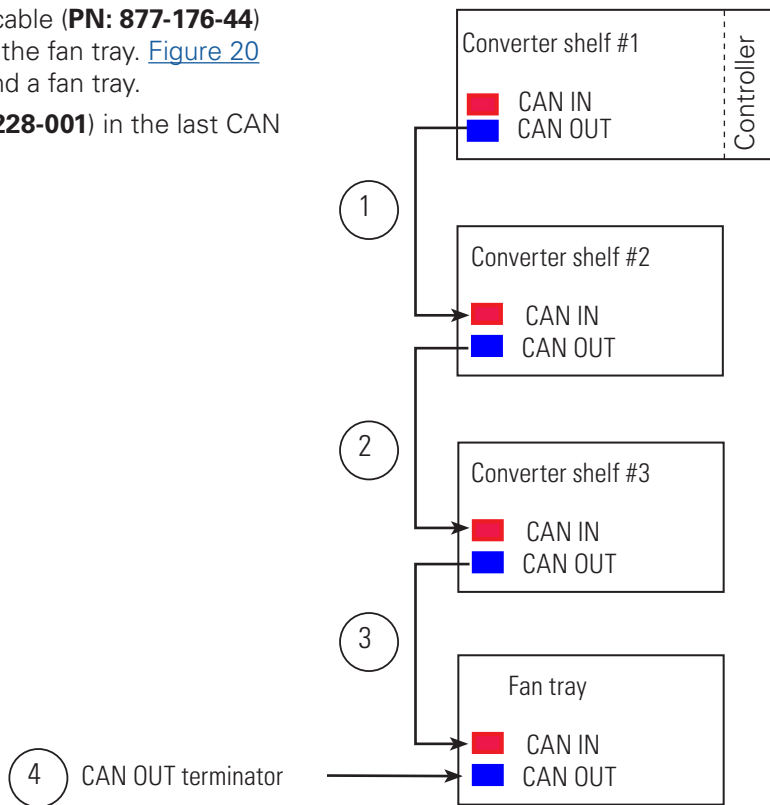

Figure 20: CAN bus cabling
1. Connect the daisy-chained CAN bus cable (PN: 877-176-44) from the top shelf to the last shelf or the fan tray. Figure 20 shows the wiring for three shelves and a fan tray.